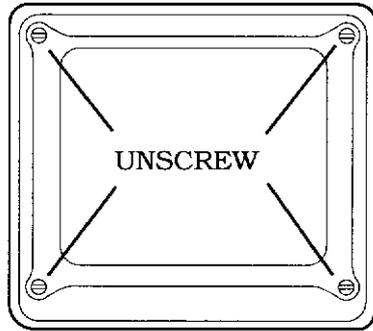

FIG. 7
- After having removed the front panel, remove the 4 tube attaching screws (FIG. 7).